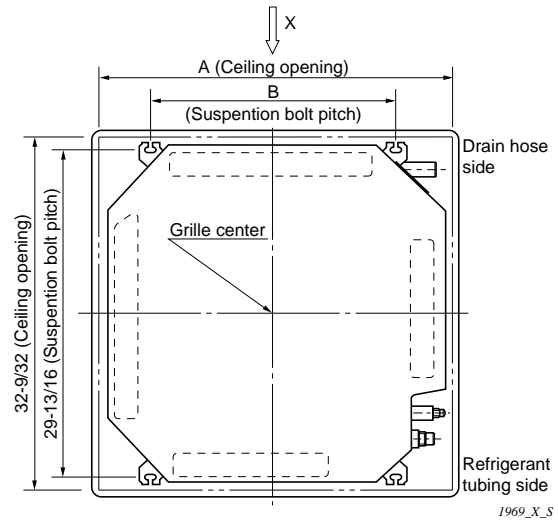

Fig. 2-2
- Follow Fig. 2-2 and Table 2-1 to make the holes in the ceiling.